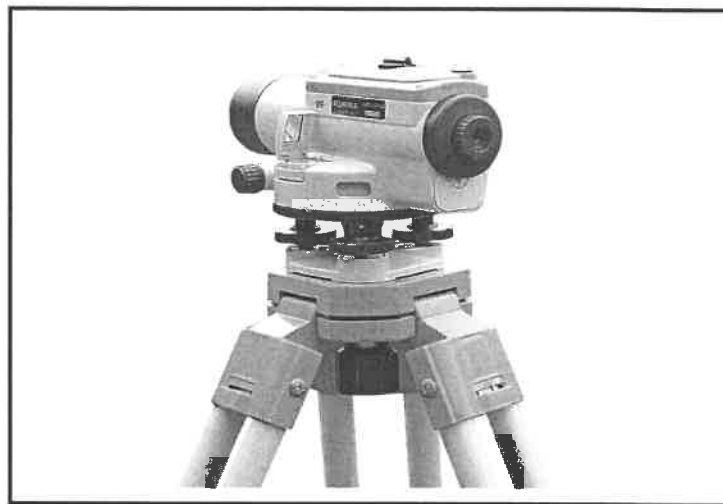

FIGURE 1.7
- 1.7 FIGURE 1.7 below shows a surveying tool used on a building site.